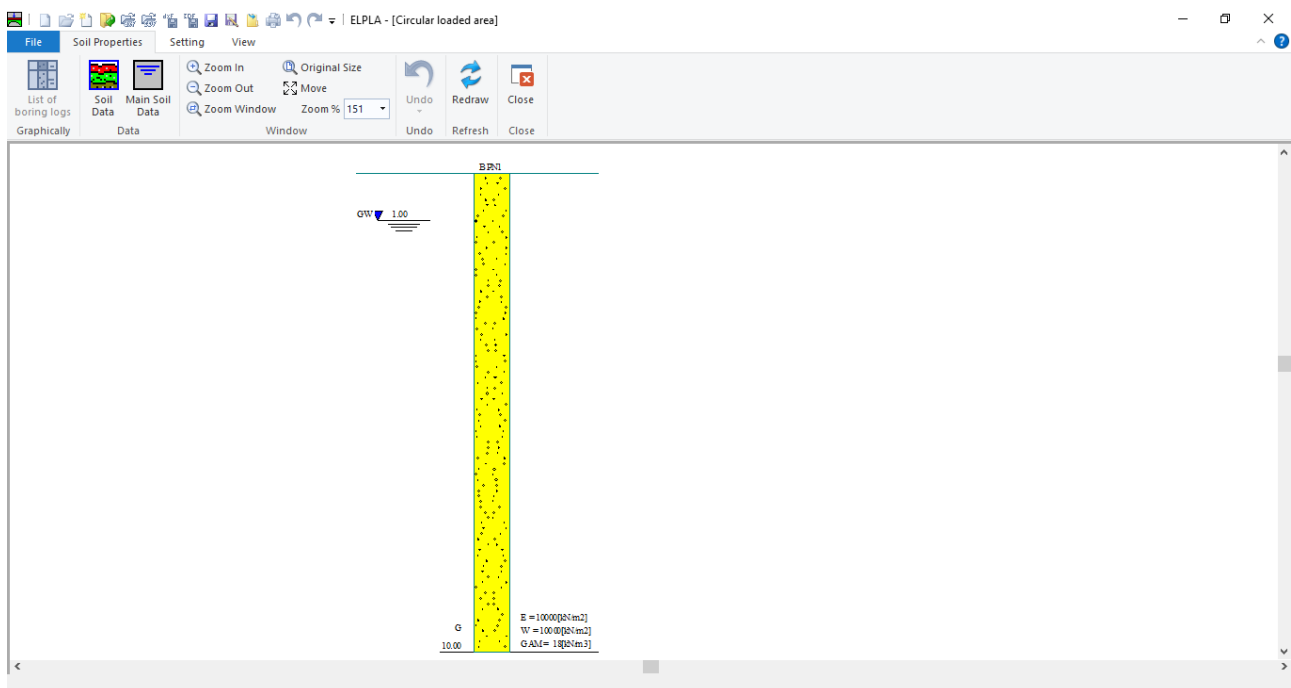
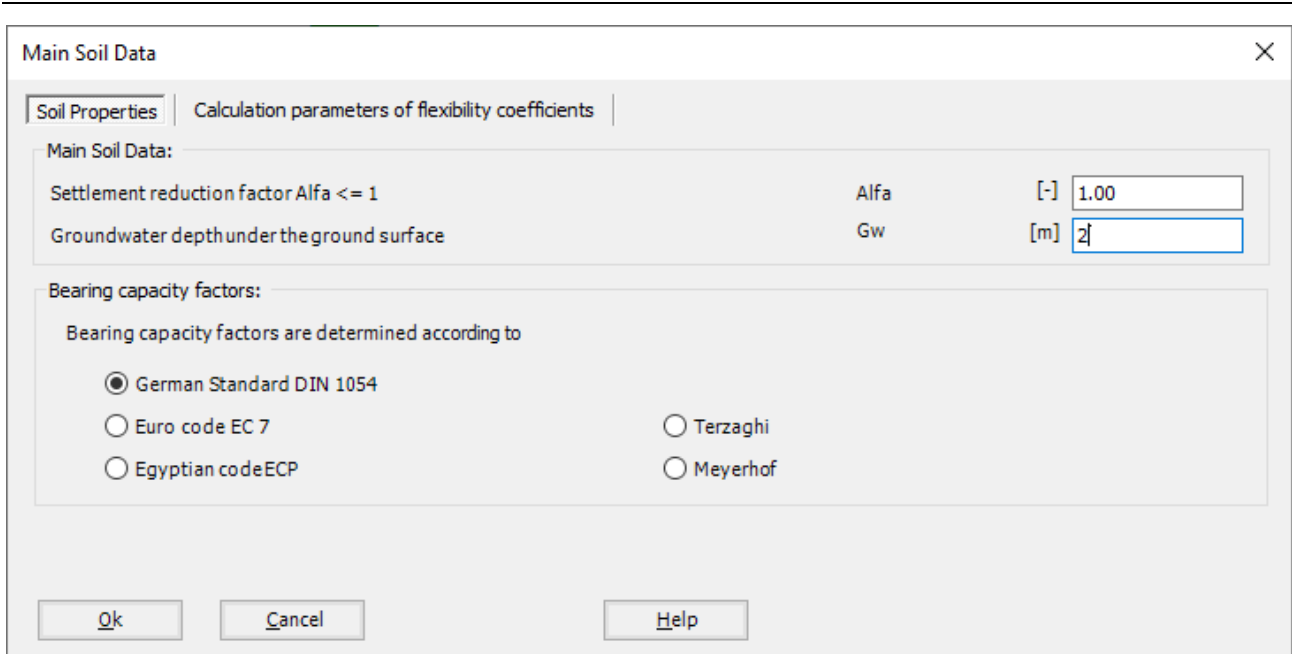

Figure 1.10 "Soil Properties" window with a default-boring log
Figure 1.13 "Main Soil Data" dialog box
To define the soil properties, choose "Soil Properties" command from "Data" Tab. The following "Soil Properties" Window in Figure 1.10 appears with a default-boring log.
In Figure 1.10, soil properties are defined through the "Data" menu, which contains the following two commands:
- Choose "Soil Data" command from "Data" menu in the window of Figure 1.10. The following dialog box in Figure 1.11 with default-boring log data appears
To enter the main soil data for all layers, choose "Main Soil Data" command from "Data" menu in Figure 1.10. The following dialog box in Figure 1.13 appears with default main soil data. The main soil data for the current example, which are required to be defined, are the settlement reduction factor α [-] and the groundwater depth under the ground surface G_w [m]. Any other data corresponding to main soil data are not required for this example. Therefore, the user can use the default values.
In the dialog box of Figure 1.13, enter the settlement reduction factor α [-] and the groundwater depth under the ground surface G_w [m]. Then click "OK" button.
- Choose "Save" command from "File" menu in Figure 1.10 to save the data of boring logs
- Choose "Close" command from "File" menu in Figure 1.10 to close "Soil properties" window and return to *ELPLA* main window